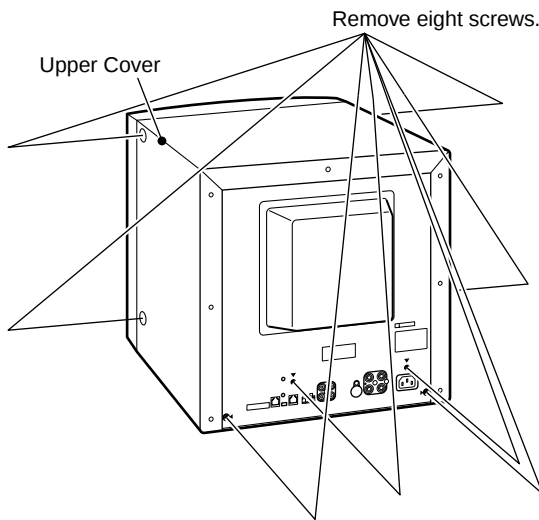

Fig. 2-1
- Referring to Fig. 2-1, remove eight screws that secure the Upper Cover and remove the Upper Cover.